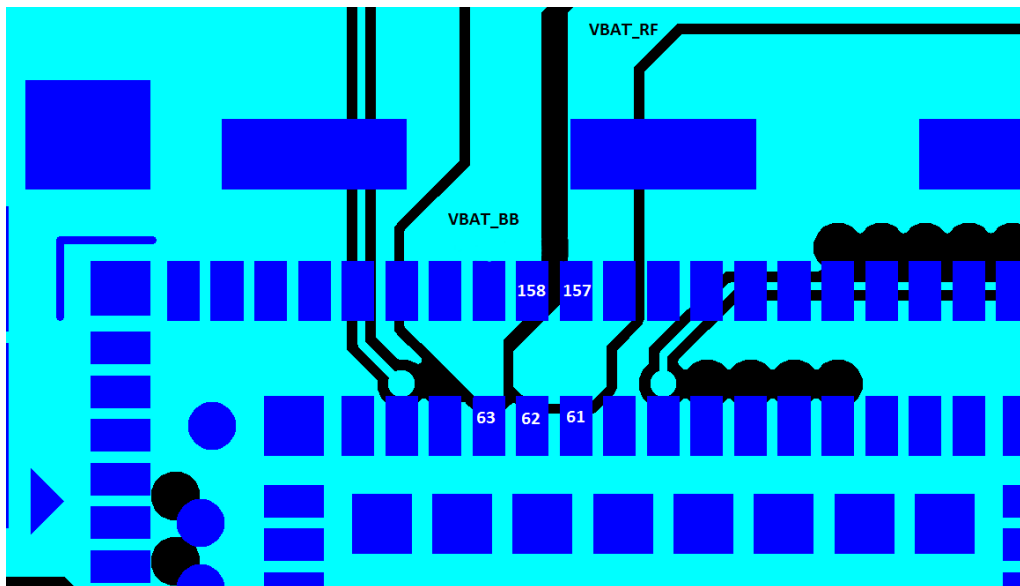

Figure 5-1: Power Supply Routing Example
*Note: Figure 5-1 shows separate traces for VBAT\_BB and VBAT\_RF. If VBAT\_BB and VBAT\_RF share a single power supply, these traces should be connected.*